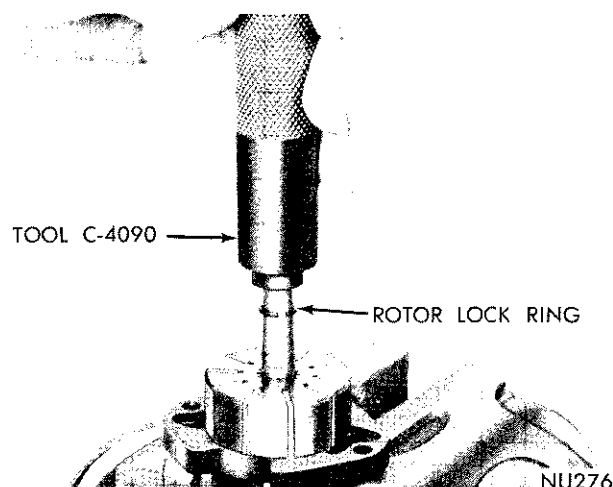

Fig. 12—Installing Rotor Lock Ring
(6) Slide rotor over splines with the counterbore of rotor facing **down**. Install rotor lock ring making sure ring is seated in groove (Fig. 12).